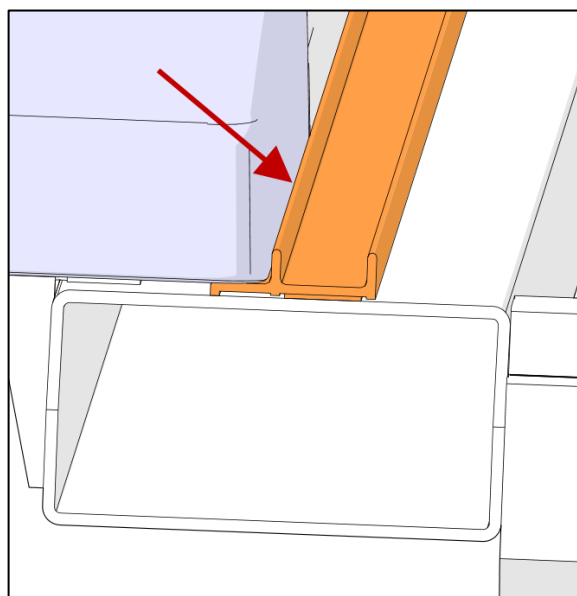

FIGURE 19
31. For the longitudinal position, mate the middle lip of the strip with the side face of the fender (see Figure 19 that shows the bottom view).